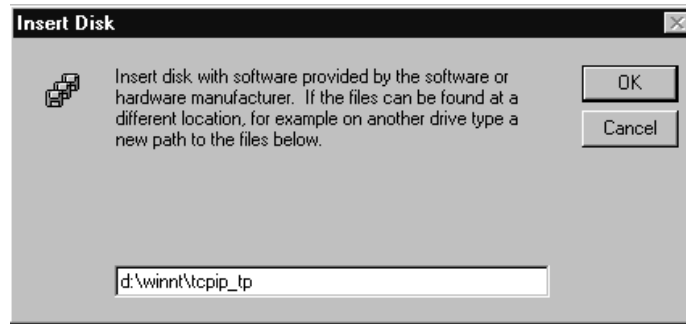

Figure 9-4. Insert Disk
4. The Insert Disk dialog will display. Enter the directory for TCP/IP Passthrough for Windows NT ("**d:\winnt\tcpip_pt**" where "d" is the driver letter associated with your CD-ROM) and click OK (Figure 9-4).